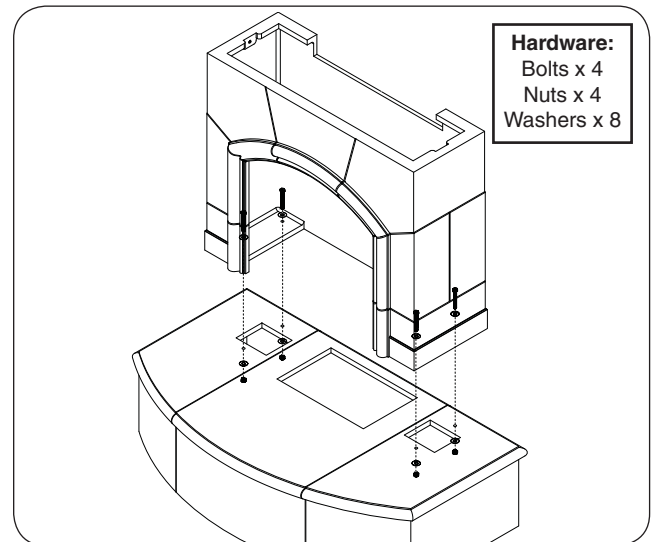

Fig. 18-1 Assemble body
1. Place the body piece on top of the hearth. Carefully align the pilot holes, and insert the hardware in the order shown in Fig. 18-1. Hand tighten, then use two $\frac{3}{4}$ " open end wrenches (or equivalent) to fasten.